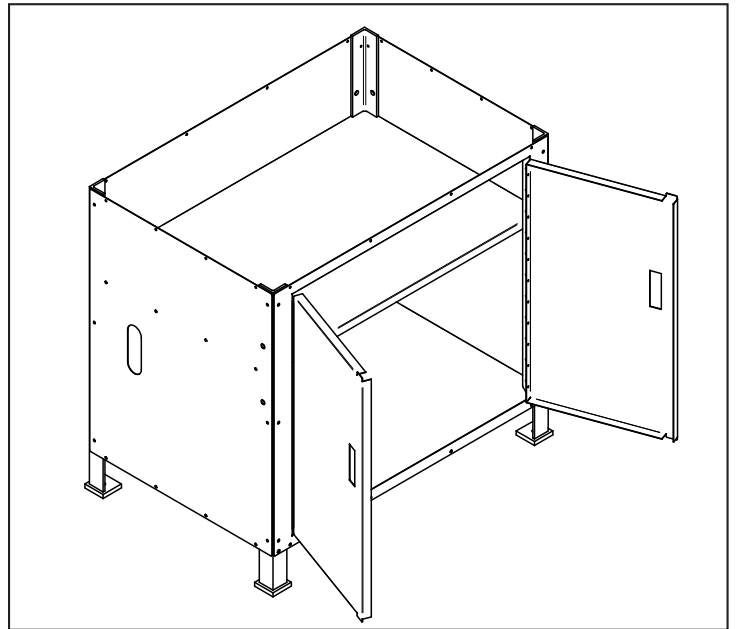

Figure 5
- Using six 10-32 x 3/8" Phillips Screws, attach Door Assembly (see **Figure 5**).